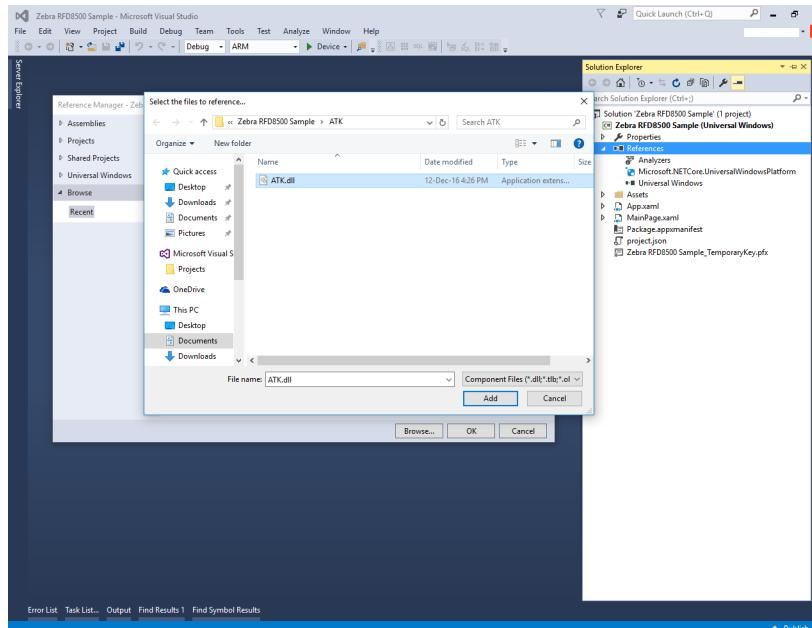

Figure 6-3 ATK.dll - Assembly Reference Section
5. Add the ATK.dll from the Assembly Reference section as shown in *Figure 6-3*. The ATK - ASCII SDK is the serializer and parser for commands sent and responses received from the reader using ZETI.